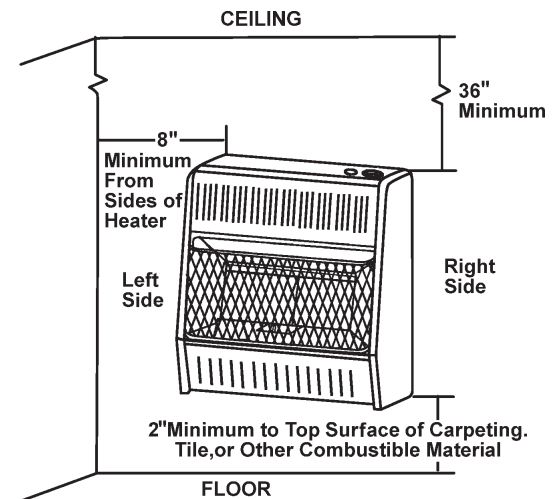

Figure 3 - Mounting clearances as viewed from front of heater (inches)
**WARNING:** Maintain the minimum clearances shown in Figure 3. If you can, provide greater clearances from floor, ceiling, and joining wall.
**WARNING:** Maintain minimum clearances shown in Figure 3. If you can, provide greater clearances from floor and joining wall.